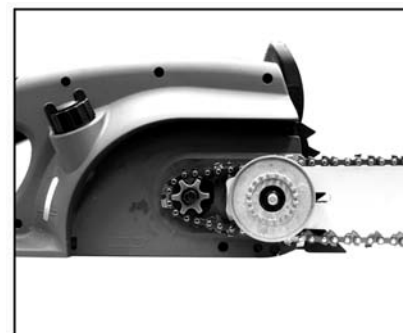

Fig. 3B
3. Slide the bar on to the saw, and place the chain correctly on the sprocket wheel (Fig. 3B).